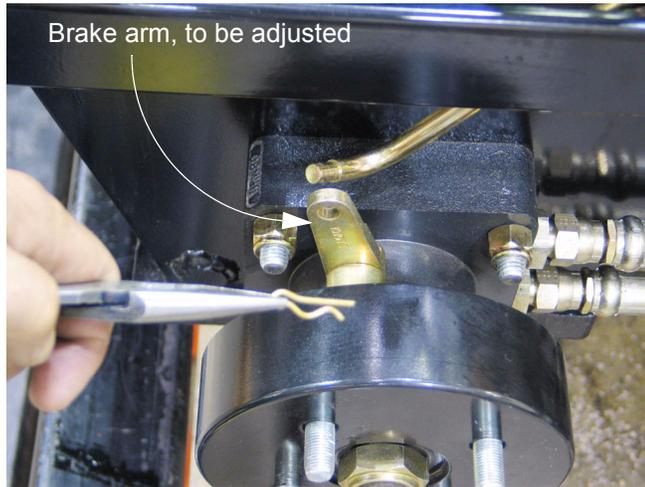

Figure 21.23
21.23. Remove the hairpin clip that secures the brake rod to the brake arm. The brake return springs will center the brake arm. See Figure 21.23.